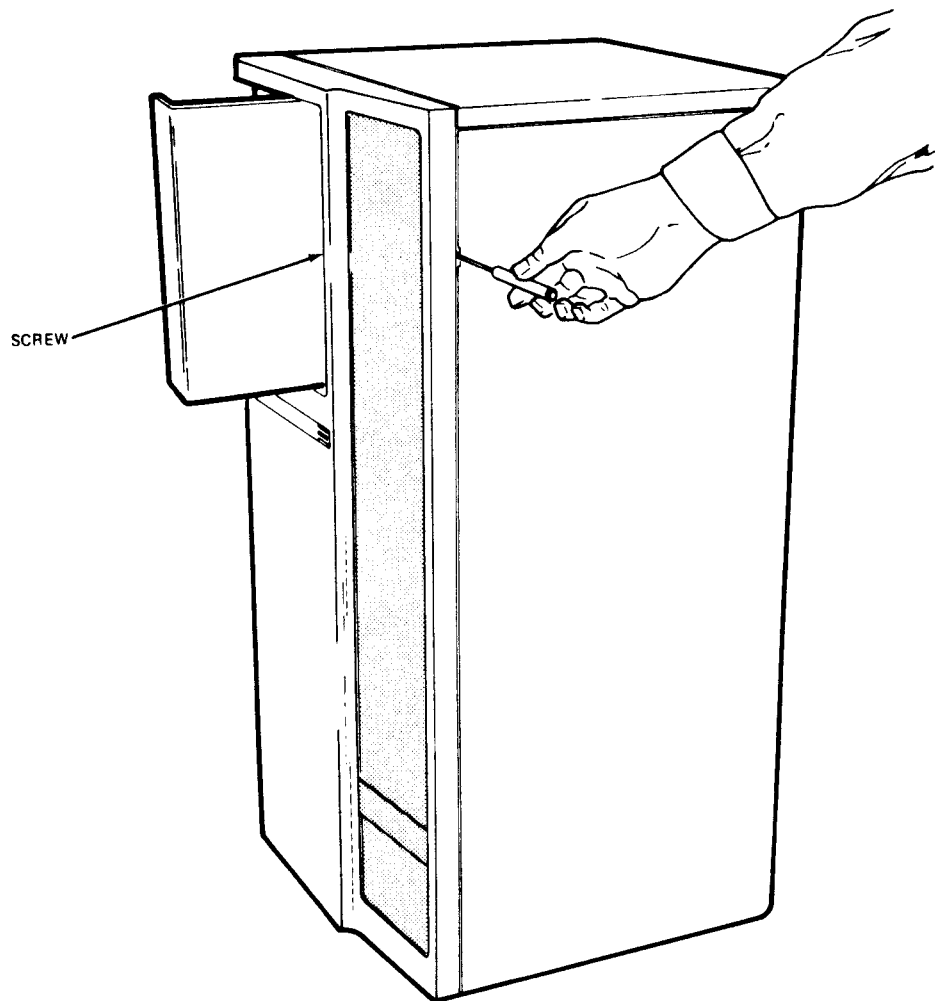

Figure C-2. Releasing the Front Panel
1. Open the front cover and remove the screw (see Figure C-2).
2. Push a slotted blade screwdriver into the clip access hole on one side of the front panel and gently pull the panel forward (see Figure C-2). Do the same to the other side.
11. Open the front cover door and replace the screw (see Figure C-2).